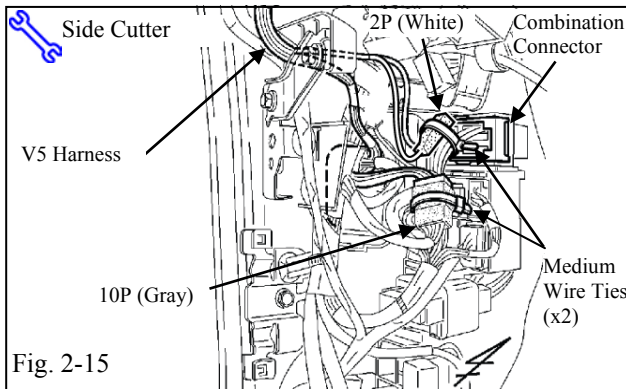

Fig. 2-15
- (v) Secure the Gray 10P connectors to the vehicle harness using one medium wire tie. (Fig. 2-15)
- (w) Bundle up the excess V5 harness, then using one medium wire tie, secure the 2P connectors and V5 harness as shown. (Fig. 2-15)